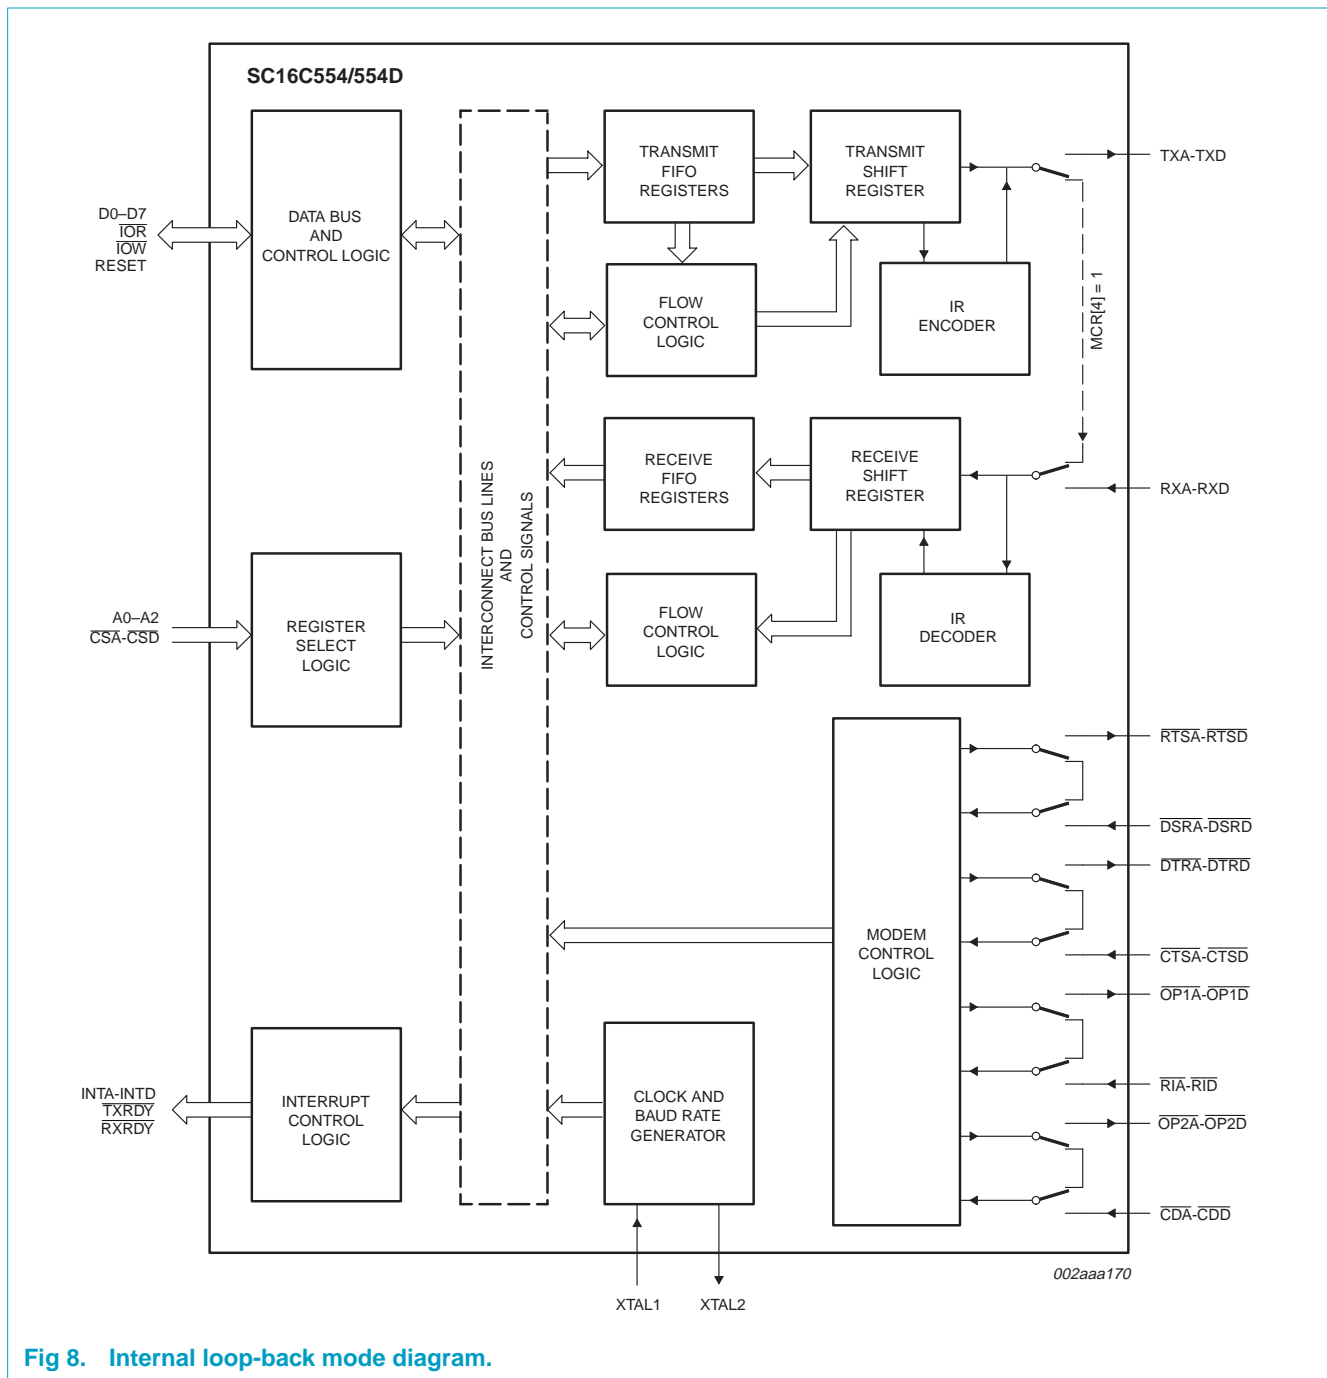

Fig 8. Internal loop-back mode diagram.
The internal loop-back capability allows on-board diagnostics. In the loop-back mode, the normal modem interface pins are disconnected and reconfigured for loop-back internally. MCR[0-3] register bits are used for controlling loop-back diagnostic testing. In the loop-back mode,  $\overline{OP1}$  and  $\overline{OP2}$  in the MCR register (bits 2-3) control the modem  $\overline{RI}$  and  $\overline{CD}$  inputs, respectively. MCR signals  $\overline{DTR}$  and  $\overline{RTS}$  (bits 0-1) are used to control the modem  $\overline{CTS}$  and  $\overline{DSR}$  inputs, respectively. The transmitter output (TX) and the receiver input (RX) are disconnected from their associated interface pins, and instead are connected together internally (see Figure 8). The  $\overline{CTS}$ ,  $\overline{DSR}$ ,  $\overline{CD}$ , and  $\overline{RI}$  are disconnected from their normal modem control input pins, and instead are connected internally to  $\overline{DTR}$ ,  $\overline{RTS}$ ,  $\overline{OP1}$  and  $\overline{OP2}$ . Loop-back test data is entered into the transmit holding register via the user data bus interface, D0-D7. The transmit UART serializes the data and passes the serial data to the receive UART via the internal loop-back connection. The receive UART converts the serial data back into parallel data that is then made available at the user data interface D0-D7. The user optionally compares the received data to the initial transmitted data for verifying error-free operation of the UART TX/RX circuits.